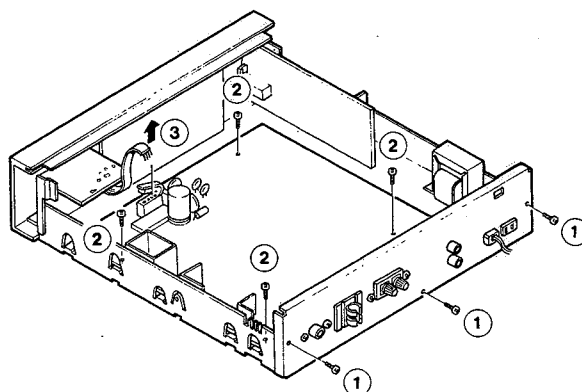

Fig. 1
• Replacement of Components on Tuner pcb (Fig. 1, 2)